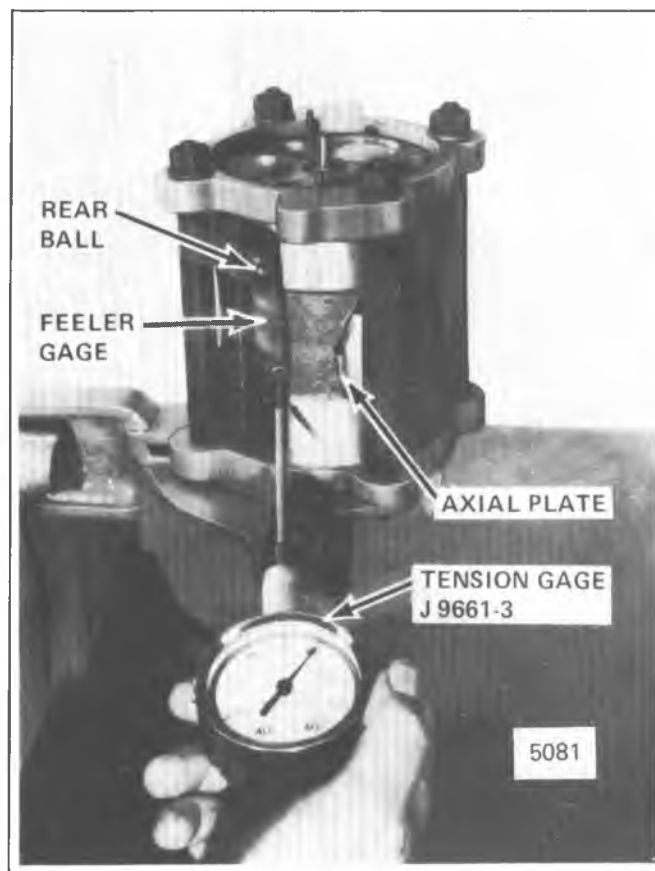

Figure 1D-45 Gaging A-6 Rear Piston Ball
18. Select a "NUMBERED" SHOE disc corresponding to **minimum** feeler gage reading recorded in the three checks just made above. (See example in Figure 1D-47). Place the selected shoe discs in Parts Tray J-9402 compartment corresponding to Piston No. 1 and rear ball pocket position.
Shoe discs are provided in .0005" (one-half thousandths) variations. There are a total of 11 sizes available for field servicing. All shoe discs are marked with the shoe size, which corresponds to the last three digits of the piece part number. (See Shoe Disc Size Chart in Figure 1D-46).
20A. Mount Dial Indicator J-8001 on edge of Compressing Fixture J-9397 with Clamp J-8001-1 and Sleeve J-8001-2 (Figure 1D-48). Position Dial Indicator on rear end of axial shaft and adjust to "zero".